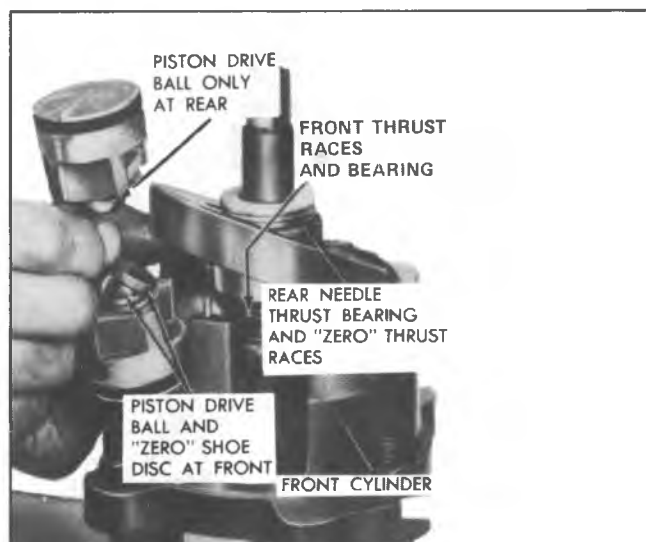

Fig. 38—Installing Piston During Gaging Operation
10. Position piston over No. 1 cylinder bore (notched end of piston being on bottom and piston straddling axial plate) and lower the shaft to allow piston to drop into its bore (Fig. 38).